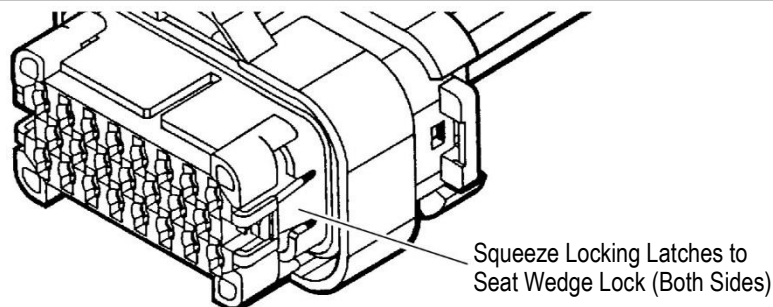

Figure 5
3. After all required contacts have been inserted, the wedge lock must be closed to its locked position. Release the locking latches by squeezing them inward (see Figure 5).